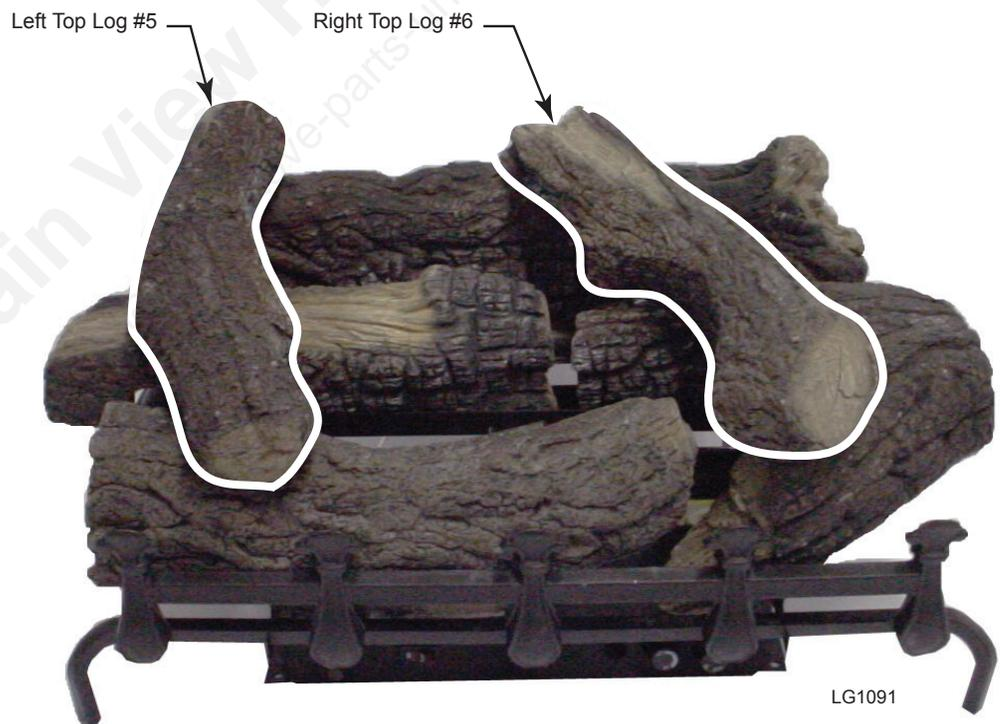

Figure 24
5. Rest Left Top Log (#5) on front and rear log cutouts. *Figure 24*
6. Rest Right Top Log (#6) on front and rear log cutouts. *Figure 24*